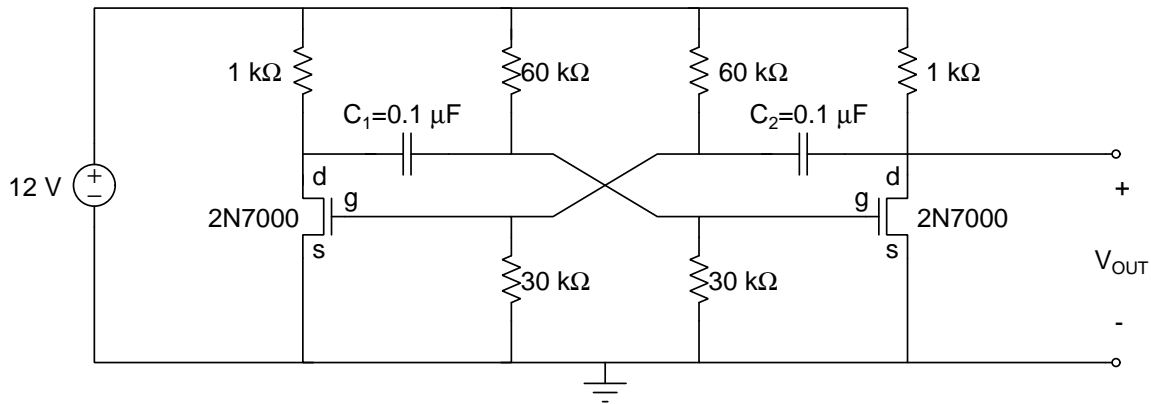
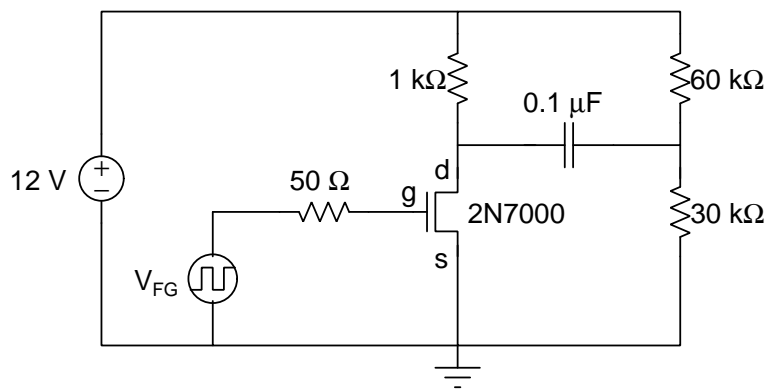

Figure 2: Astable multivibrator circuit of Figure 1 with 2N7000 transistors used as voltage-controlled switches.
Figure 3: Multivibrator half-circuit.
4. Use NGspice to analyze the operation of this circuit. An NMOS transistor is used as a voltage controlled switch. Replace the ideal switches with the 2N7000 NMOS transistors as shown in Figure 2. Use the **2N7000\_mod** symbol in NGspice. In an NMOS transistor, current flows between the drain (D) terminal and the source (S) terminal when the gate (G) to source (S) voltage ( $V_{GS}$ ) is greater than the threshold voltage ( $V_t$ ) of the transistor. No current flows between the D terminal and the S terminal when  $V_{GS}$  is less than  $V_t$ .
1. Build the multivibrator half-circuit circuit shown in Figure 3.
2. Set the function generator to produce a triangular wave with a voltage from 0 to 5 volts and a frequency equal to that found in step 5 of the Pre-Lab. Use the scope to record the voltage at the gate (G) and the drain (D) of the 2N7000 transistor. Determine the gate voltage that causes the transistor to turn-on and off. Try and find two transistors that have approximately the same switching voltage.
3. Build the full astable multivibrator circuit shown in Figure 2. This circuit should oscillate when power is supplied.